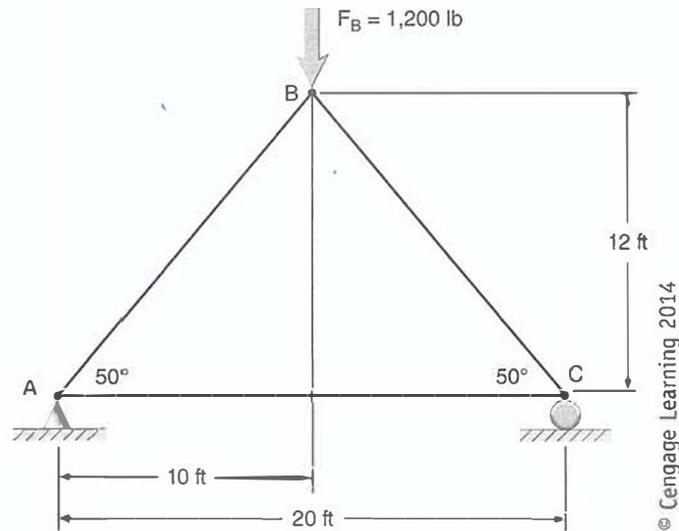

FIGURE 12-16 A simple truss.
Enter the reaction forces and internal stresses directly on the truss diagrams in Figs. 12-16 and 12-17 (i.e. you don't need to fill-out each question individually, since you're using the software).
2. Fully-labeled trusses in Figs. 12-16 and 12-17 **including the backup printouts from MD Solids**
Problem 12.12 Figure 12-16 is a statically determinate truss that has one pinned support at point A, one roller support at point C and a concentrated load applied at point B.